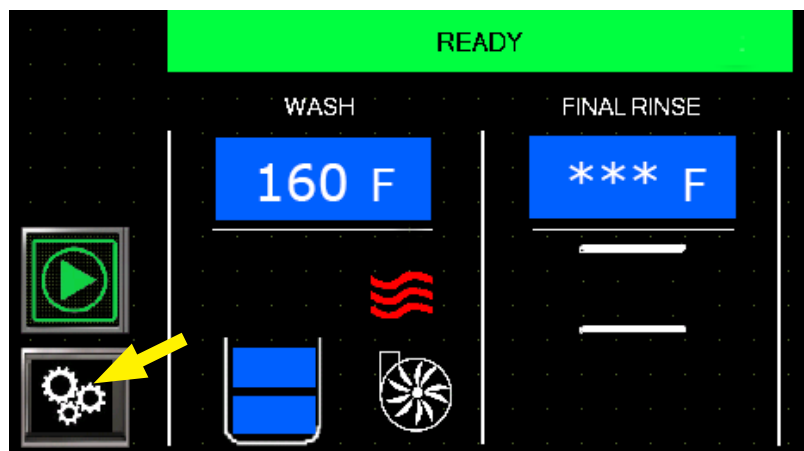

Fig. 29 -GEARS button
- The **GEARS** button appears on the main screen and accesses the supervisor mode, Fig. 29.